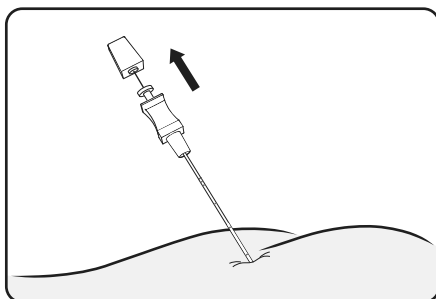

Figure 7. Remove the stylet from the foramen needle
- Remove the stylet from the foramen needle (**Figure 7**).